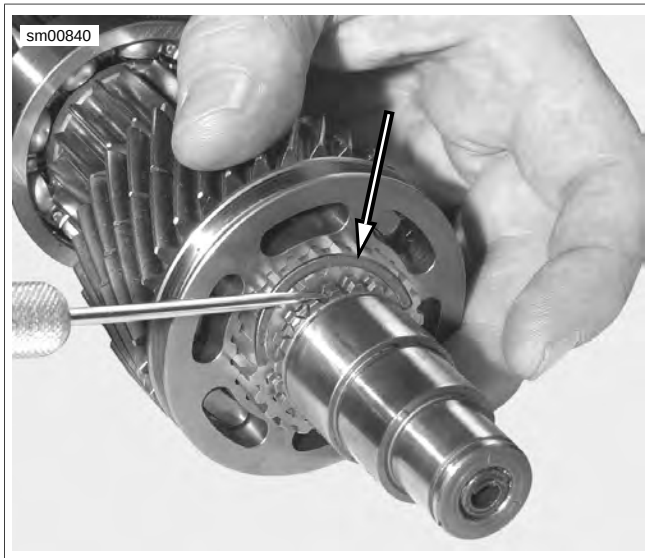

Figure 6-139. Half Moon Keepers
5. See Figure 6-139. Remove half moon keepers.